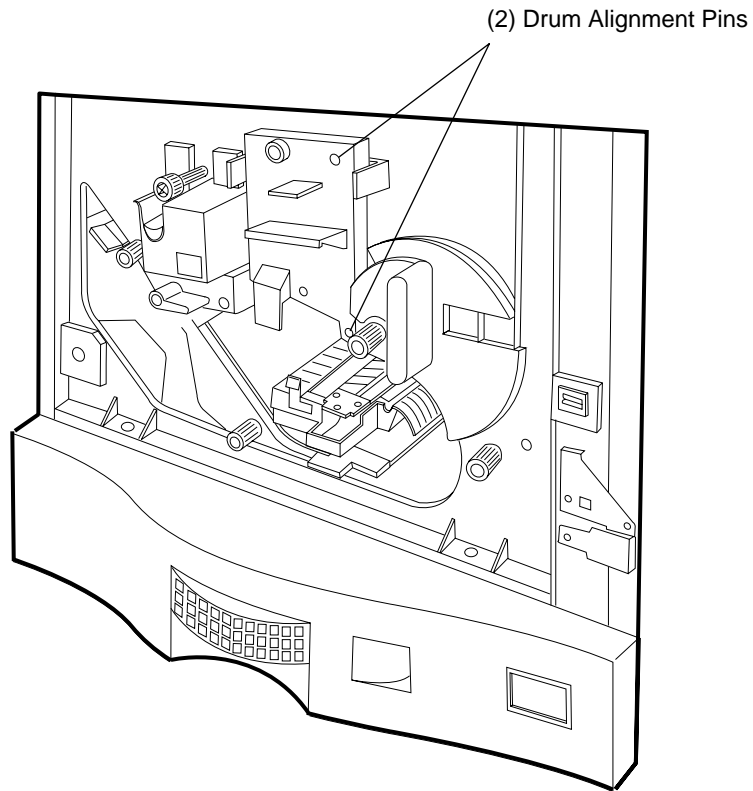

Figure 4-29 Drum Alignment Pin locations
2. Gently push the drum onto the positioning pins (Figure 4-29).